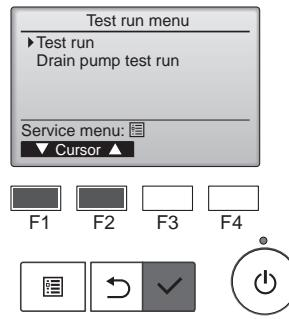

Fig. 7-4
- ④ Select "Test run" with the **F1** or **F2** button, and press the button. (Fig. 7-4)